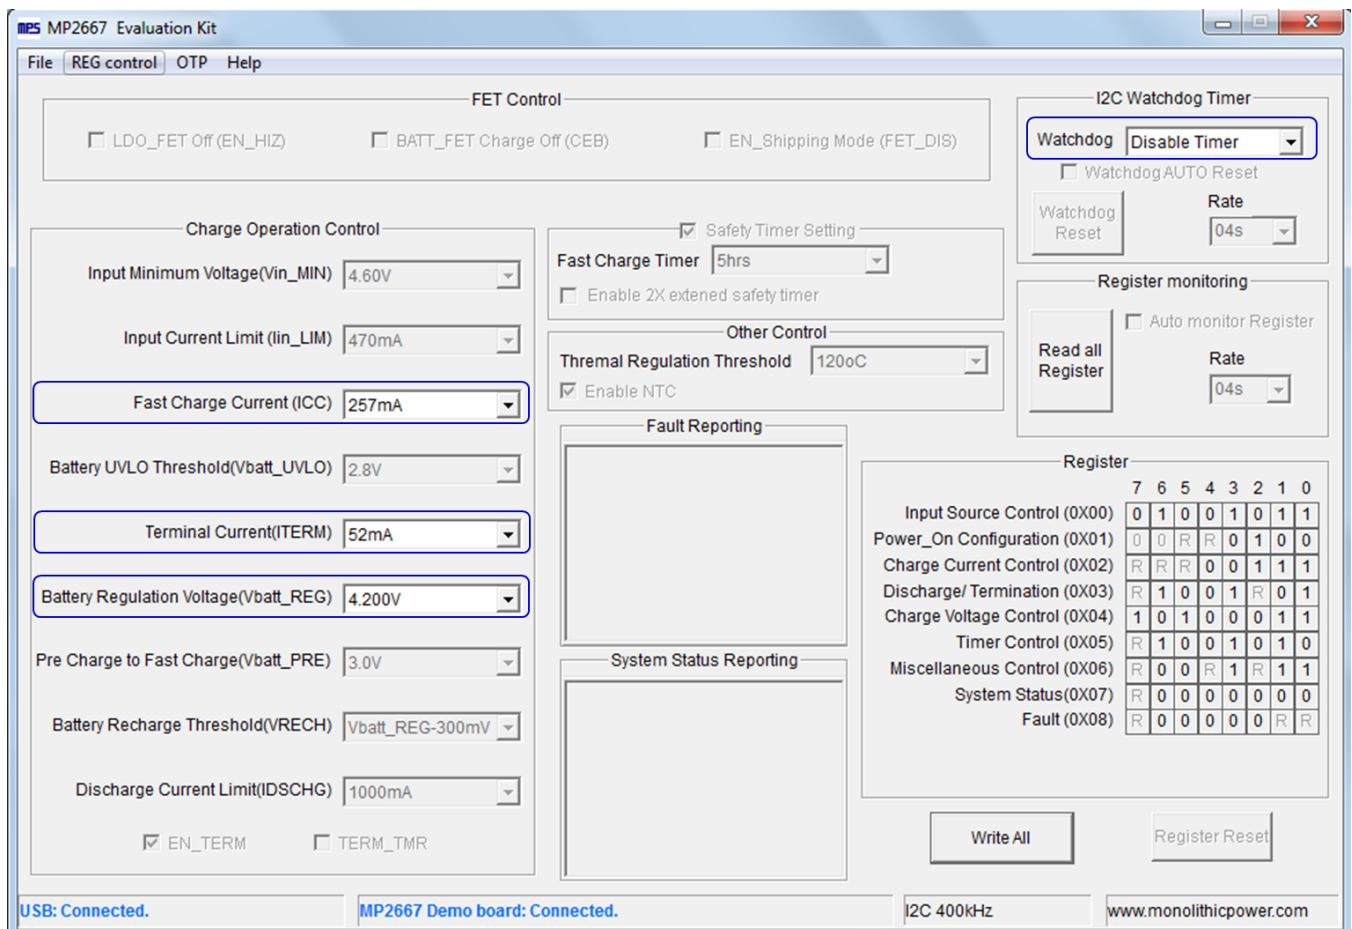

Figure 9: Adjustable Parameters in OTP Mode
4. Enter a new table (see Figure 9). Any of the highlighted parameters can be changed.